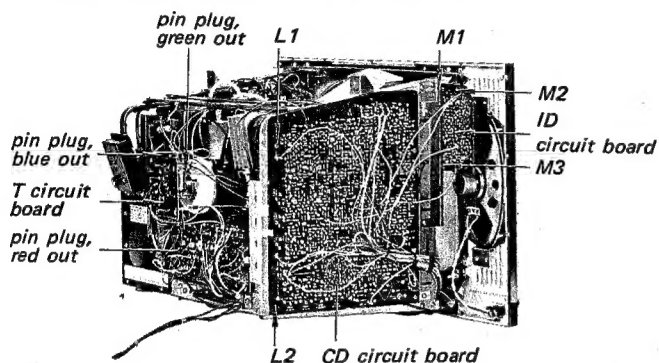

Fig. 2-15.
1. Remove the two screws labeled L1 ~ L2 in Fig. 2-15.
2. Pull out the three pin-plugs on the T circuit board that connect between the red, blue and green output leads of CD circuit board and the T circuit board as shown in Fig. 2-15.
Take off the ID circuit board by removing the three screws labeled M1 ~ M3 in Fig. 2-15.